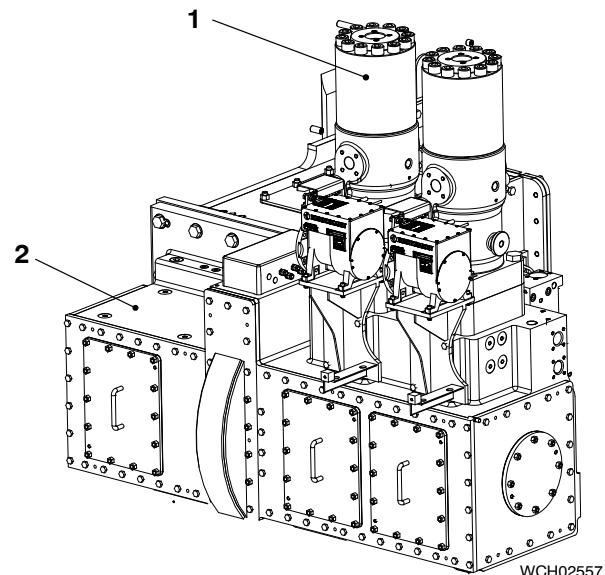

Fig. 1: Location of Fuel Pumps
The fuel pumps (1, Fig. 1) are part of the supply unit (2).